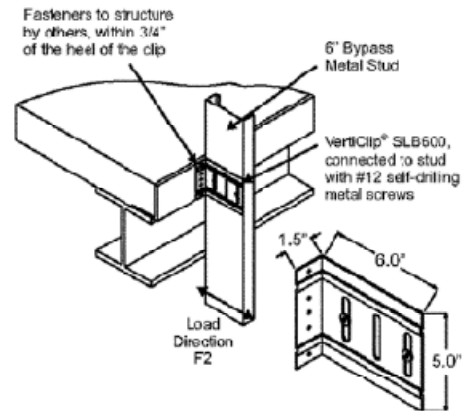

FIGURE 2 - VERTICLIP SLB600
**3.1.3 VertiClip® SLB:** The VertiClip SLB600 is an L-shaped angle that connects 6-inch-deep (152 mm) exterior curtain wall steel studs to a concrete floor slab's pour stop angle while allowing a maximum of 2 inches (51 mm) of vertical movement between exterior wall elements and the primary structure. The minimum base-metal thickness of the clip is 0.0677 inch (1.7 mm). The long leg of the connector, which is fastened to the curtain wall stud, has three vertical slots, each 3/8 inch (9.5 mm) wide by 23/8 inches (60.3 mm) long. Refer to Figure 2 for overall dimensions of the VertiClip SLB600 connector and a typical installation detail.